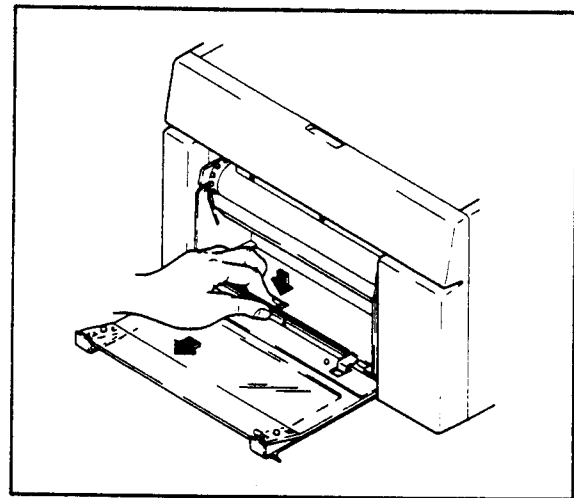

Figure 7-2.
- (4) A stopper for drawing out the chart drive mechanism is provided under the chart rest tray. (The stopper projects through the square hole of the chart rest.)
- (5) While pressing down the stopper, pull the chart drive mechanism toward you slowly to limit of travel (see Figure 7-2).